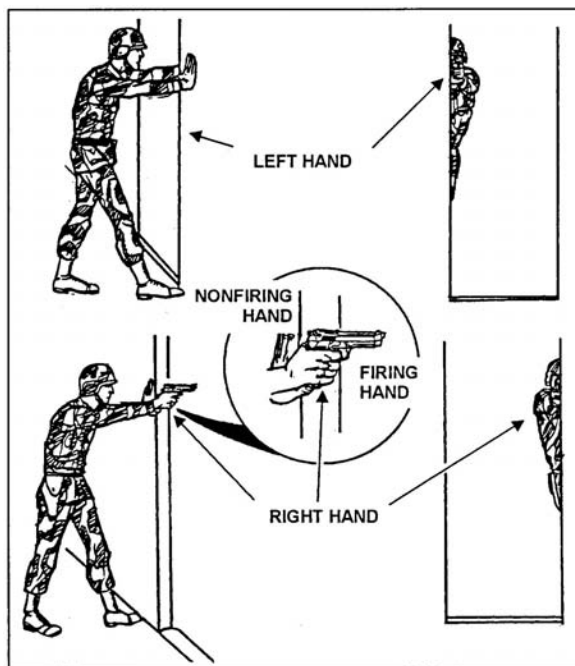

Figure 071-004-0006-7. Standing-with-support position
c. Kneeling (figure 071-004-0006-8). To assume this position—
- (1) Use available cover for support such as a low wall, rocks, or a vehicle that you can fire over.
- (2) Place your firing knee on the ground. Put your left knee down to fire left handed, or your right knee down to fire right handed.
- (3) Bend your other knee. Place the foot on your nonfiring side flat on the ground, pointing toward the target. Extend your arms over available cover, and use it for support.
- (4) Lock the wrist and elbow of your firing arm.